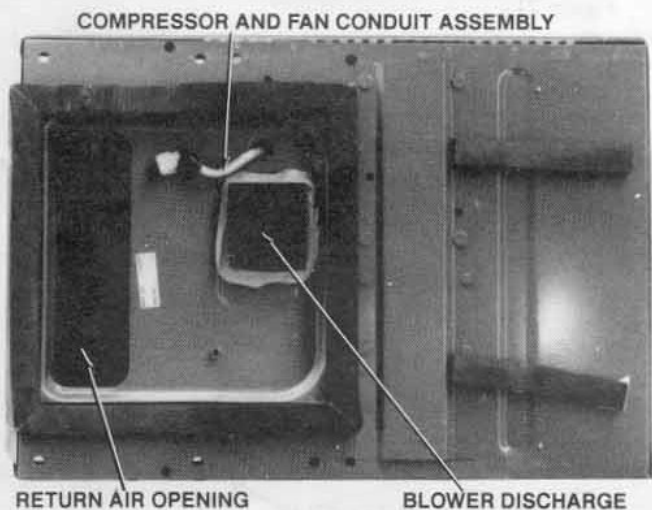

Fig. 15
1. Remove the plastic tie that is securing the compressor and fan conduit assembly to the bottom of the roof top unit. See Figure 15. The Delta TX series roof top unit will have an additional exhaust motor conduit assembly. The exhaust conduit assembly extends down through the return air opening and secures to the bottom of the roof top unit. Release both conduit assemblies. Pull the compressor and fan conduit assembly down to the ceiling opening. Let both conduit assemblies hang freely.